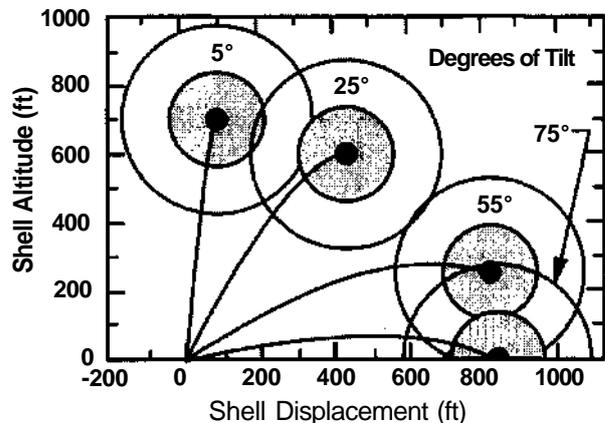

Figure 3. Illustration of the trajectory and functioning of 6-inch aerial shells fired from tilted mortars.
It is useful to consider what degree of mortar repositioning poses a problem. Figure 3 illustrates the trajectory of aerial shells fired from tilted mortars. These are computer modeled data^[7] for 6-inch spherical shells. [Note that the general accuracy of this computer model has been confirmed experimentally.] In this analysis, it has been assumed that the aerial shell bursts 5 seconds after leaving the mortar, and that it disperses its contents with a spread typical of a hard breaking spherical shell.^[8]
In Figure 3, the location of the shell at the time of its functioning is shown as a large solid dot. At the scale of the drawing, the diameter of the dot is 50 feet and is intended to correspond roughly to the zone of maximum injury potential. In each case the dot is surrounded by a shaded area, corresponding to a diameter of 250 feet, through which there is a much less, but still significant, potential for injury. The still larger circle, corresponding to the diameter of 500 feet, is the approximate maximum extent of burning material from the shell burst and is intended to represent the approximate extent of even minimal injury potential.^[9]
For normally functioning aerial shells, it is apparent from Figure 3 that it is not minor repositioning of mortars that poses a hazard to spectators. Of course this is because, the aerial shells fired from those mortars will function far enough above the ground. It is only when the tilt angle (measured from vertical) exceeds approximately 60 degrees that much burning debris is expected to reach the ground.^[10]
- 9) The burst spreads of the aerial shells in Figure 3 are shown as being spherical, where actually some would be distorted somewhat because of the motion of the shell at the time of its explosion.
- 10) When mortars are tilted nearly horizontal, often they will be free to recoil along the ground if a shell fires from it. This has the effect of reducing the distance to which the shell can be propelled; however, that has not been considered in Figure 3.